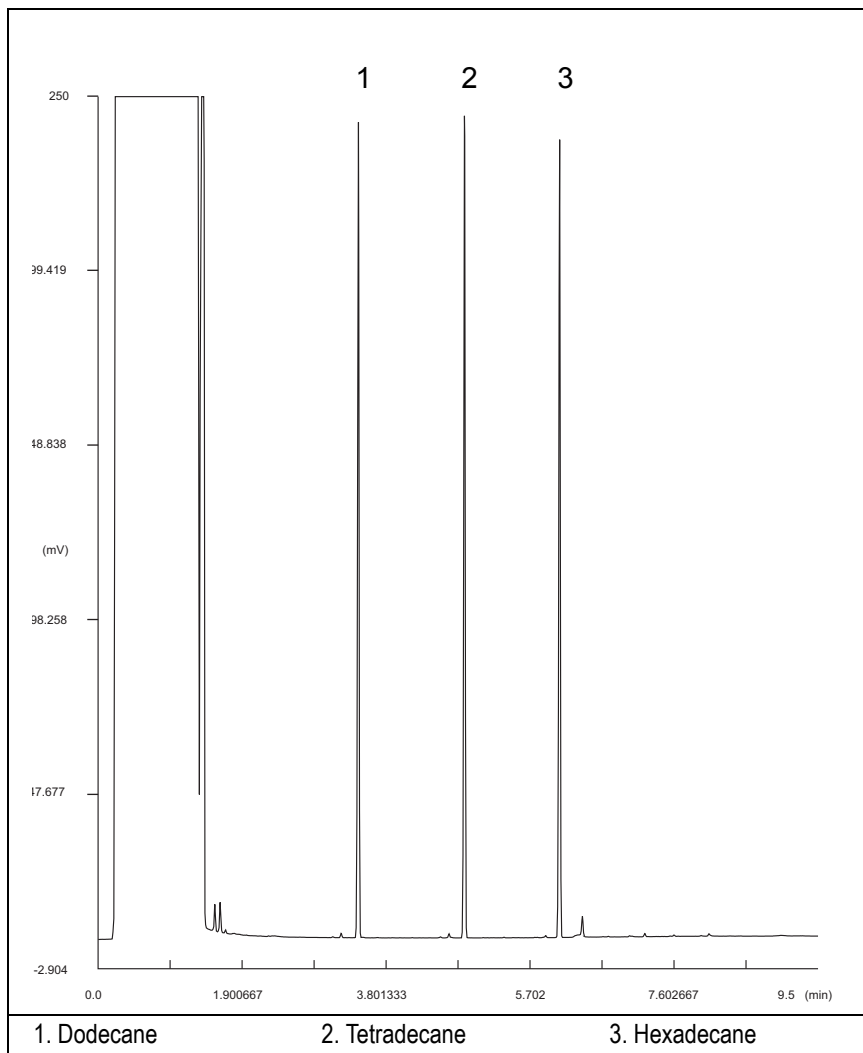

Figure 6-1. FID-PTV Injection
16. Inject the test mixture and press **START** on the GC to begin the checkout run. The resulting chromatogram should look like the one shown in *Figure 6.1*